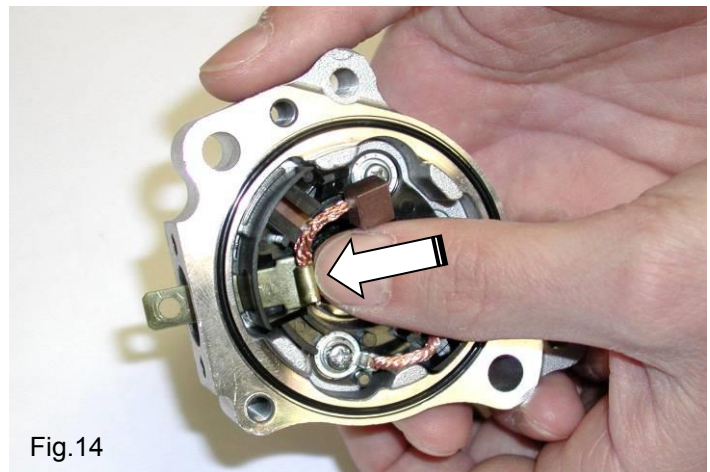

Fig.14
- INSTALL NEW BRUSH TERMINAL (See Fig.14).